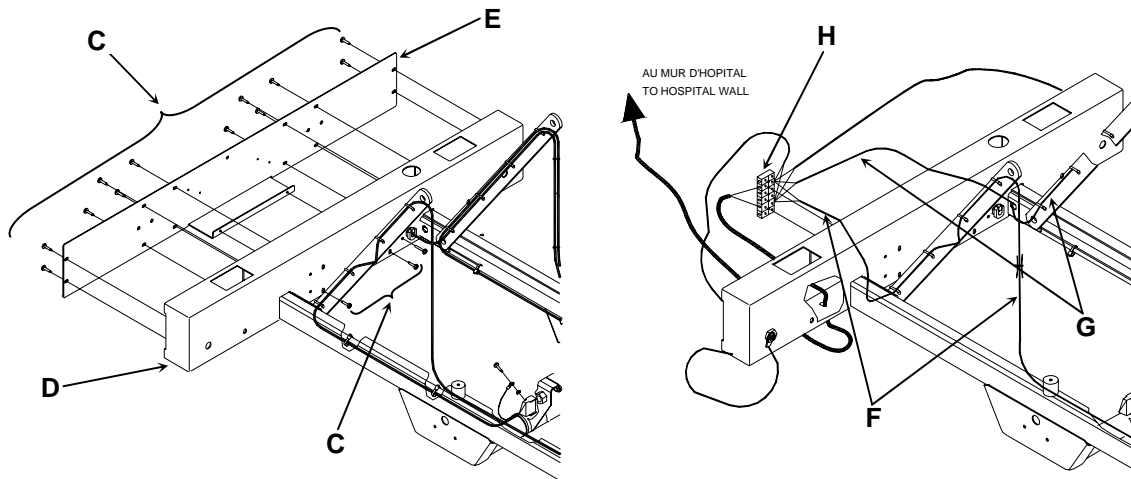

Figure 4.1B
3. Using a Phillips screwdriver, remove the fourteen screws (**C**, fig. 4.1B, page 16) holding the head end casing cover (**E** fig. 4.1B, page 16) to the head end casing and remove the cover.